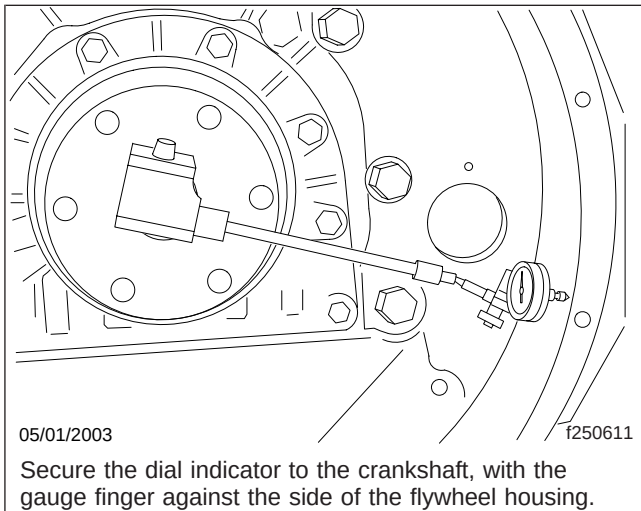

Fig. 4, Measuring the Flywheel Housing Bore
4. Measure the runout of the flywheel housing bore, as follows. See Fig. 4 for the correct setup.